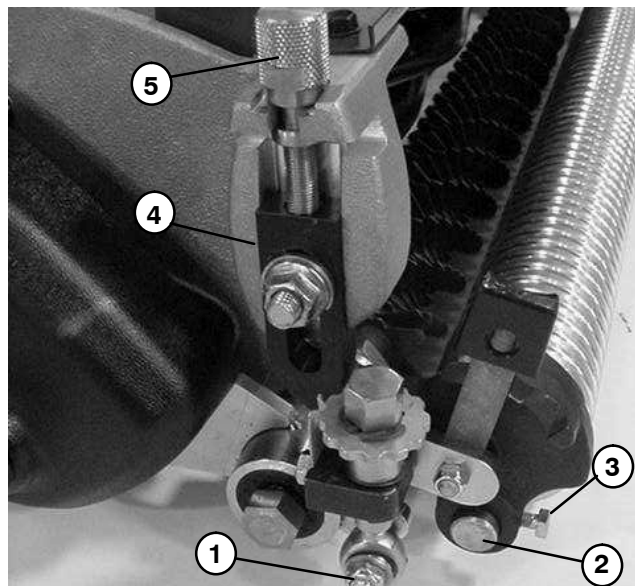

Figure 7
3. Loosen cap screws securing front roller shaft to RH (Fig. 7) and LH adjuster arms.
4. Remove locknut and belleville washer securing RH adjuster arm rod end to RH groomer side plate pin (Fig. 7).
7. Position RH adjuster arm to front roller, groomer side plate pin, and mower frame. Secure to mower with carriage bolt, washer, and flange nut (Fig. 7).